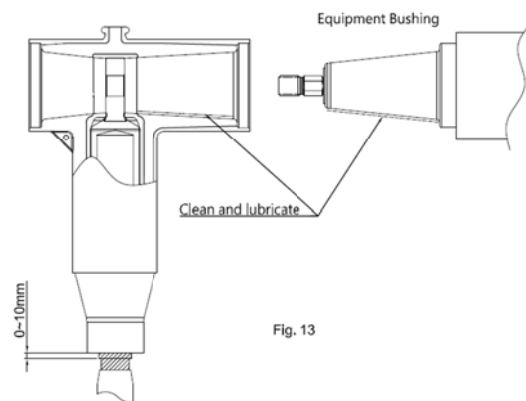

Fig. 13
Step 13. Use monkey spanner and tighten exerting stud into equipment bushing with 30Nm of torque. Clean equipment bushing and front t-body interface. After cleaner evaporate, lubricate by silicone lubricant. (See Fig. 13)